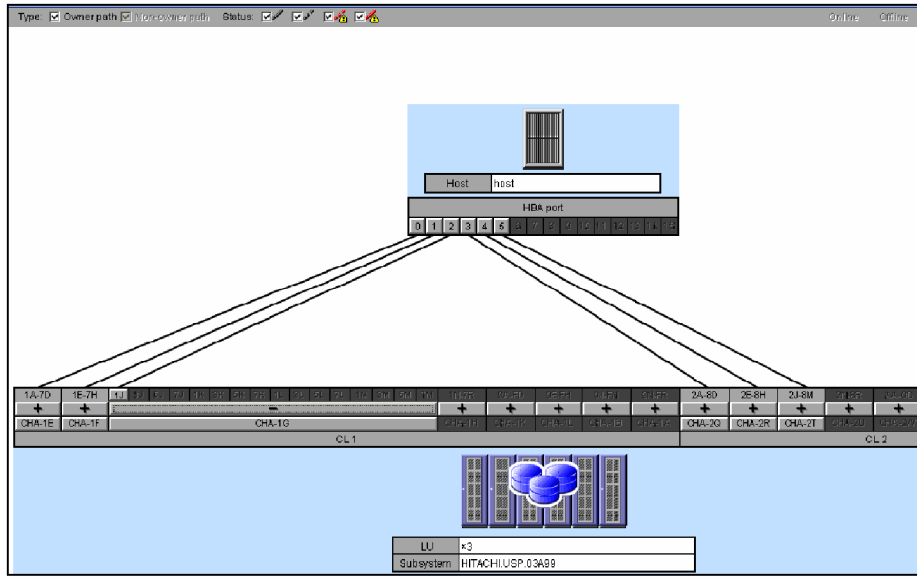

Figure 6.8 Configuration View: TagmaStore USP
- A channel adapter number is assigned to each channel adapter. In Figure 6.8, these numbers are CHA-1E, CHA-1F, and so on.
When the channel adapter ports are displayed in the minimized mode, all ports belonging to each channel adapter are displayed after being aggregated into one channel adapter port number. In Figure 6.8, these numbers are 1A-7D, 1E-7H, and so on.
When the channel adapter ports are displayed in the expanded mode, 16 channel adapter port numbers for each channel adapter are displayed. In Figure 6.8, these numbers are 1J, 3J, and so on.